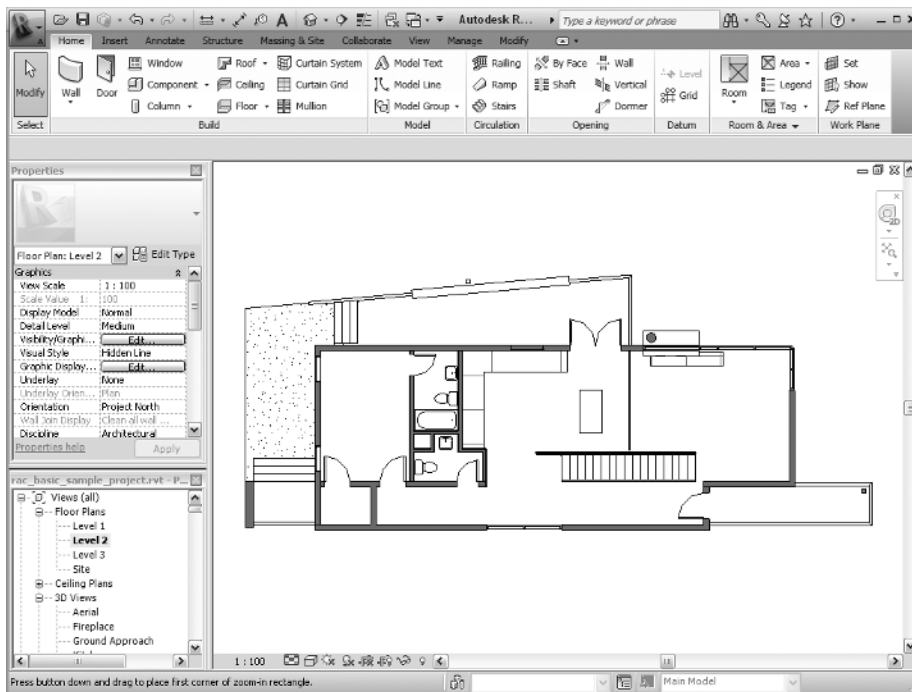

Figure 1.19 Revit sample project Level 2 drawing
2. Double-click Level 2 in the View hierarchy panel. Revit automatically generates a 2D floor plan from the 3D building information model stored in its relational database (Figure 1.19).